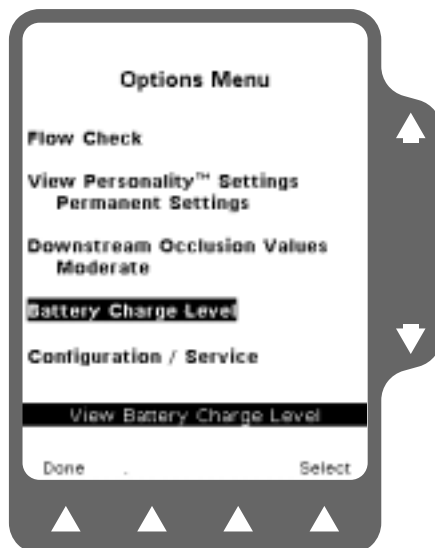

Figure 4-8 Options Menu
1. Press the **Options** soft key from the Main Display to access the Options Menu (Figure 4-8).